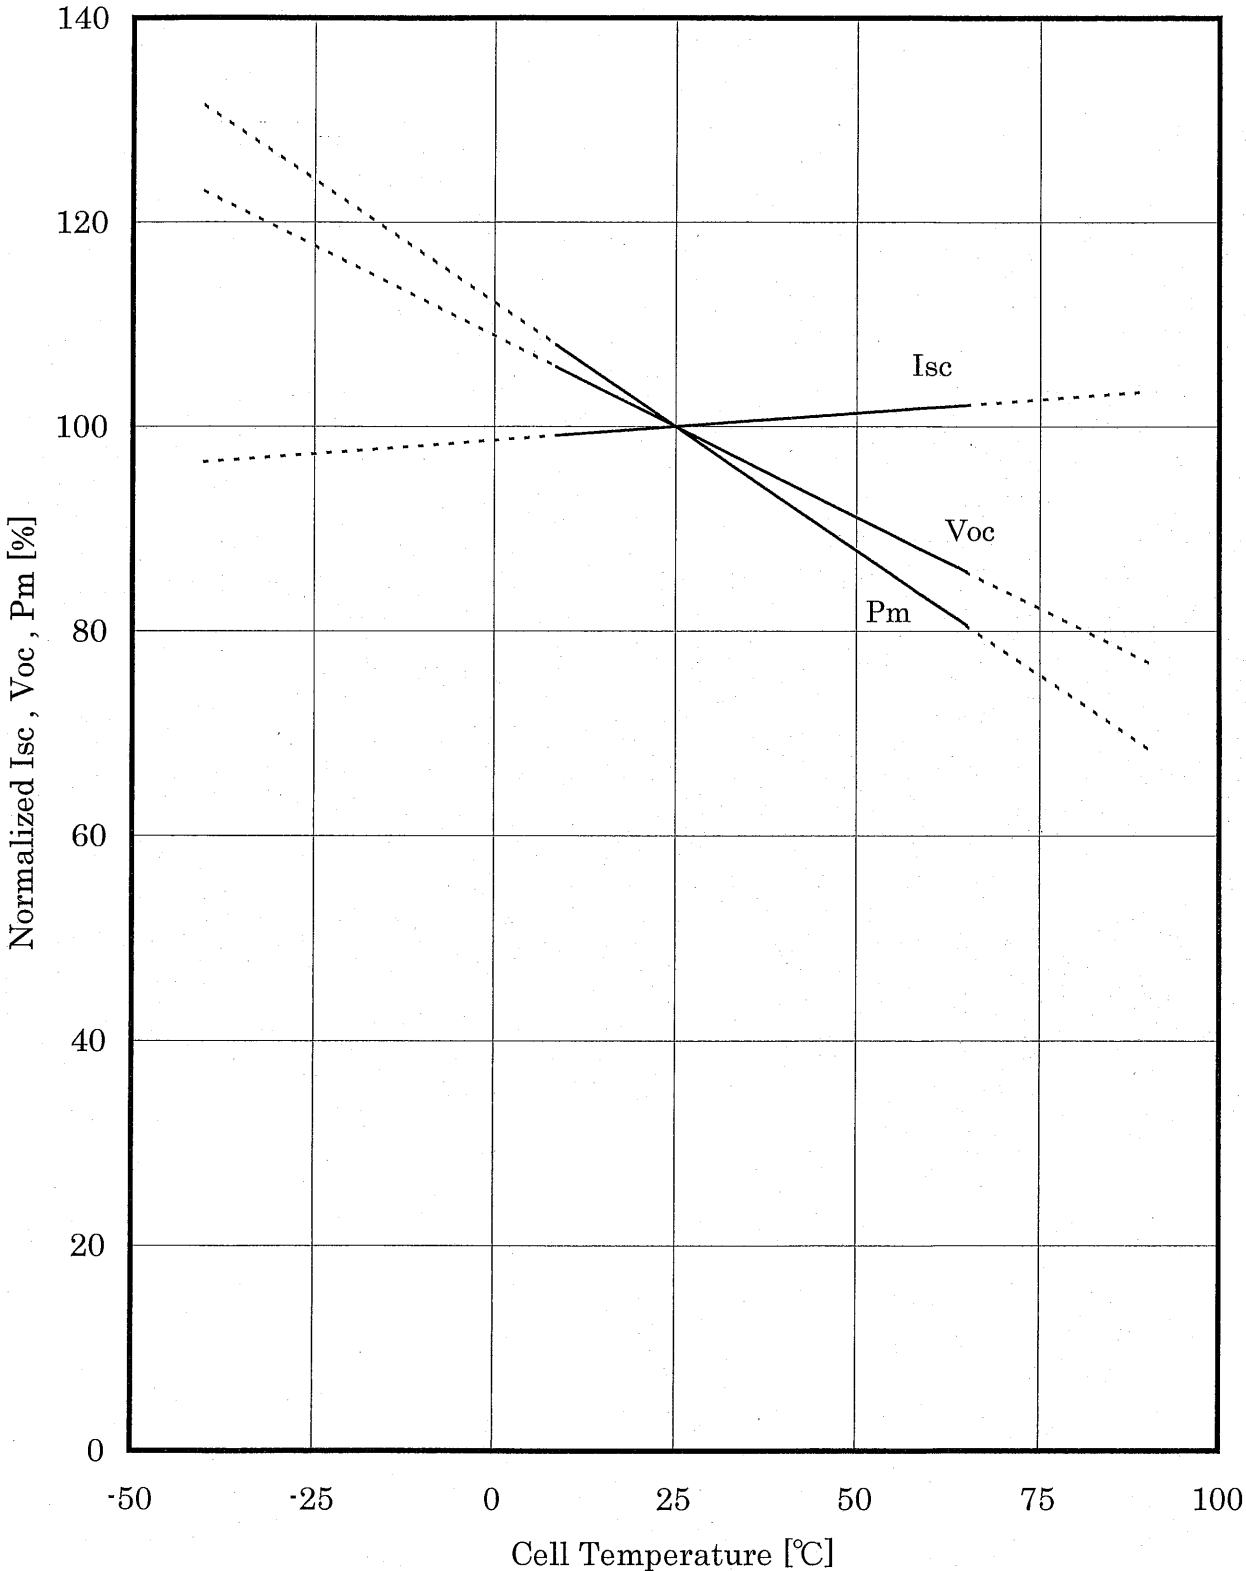

Fig. I -3 Normalized Isc , Voc , PM vs Cell Temperature Characteristics
- (3) Fig. I -3: Normalized characteristics regarding Open circuit voltage ,Short circuit current and Maximum power versus Cell temperature